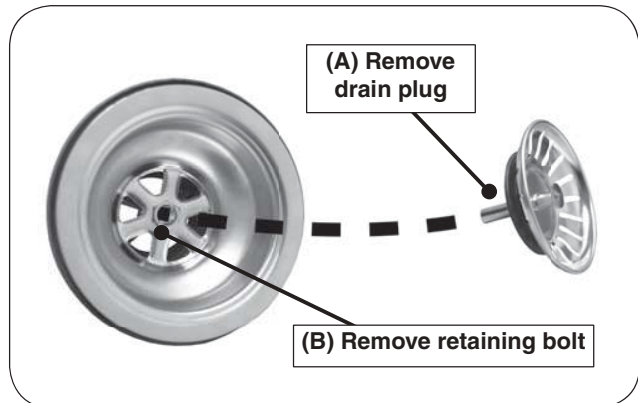

Fig. 2-1 Remove drain plug and retaining bolt
1. Pull out the plug from the drain assembly, and remove the exposed retaining bolt using a Flathead screwdriver or a $\frac{9}{16}$ " nut driver (see Fig. 2-1).